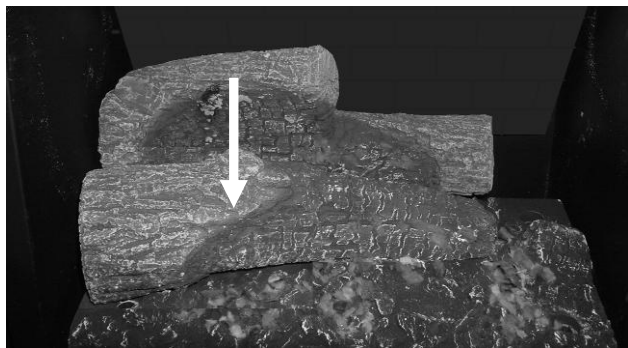

Figure 20– Log 2 Position
3. Place Log 2 into the channel in the burner in front of log 1 as shown in Figure 20.